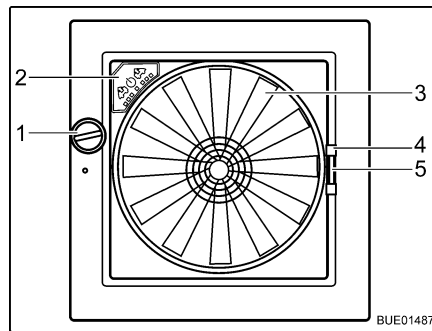

Fig. 55 Omni-Vent skylight
- Opening:* ■ Turn the knob (Fig. 55,1) until the desired opening angle is reached.
- Closing:* ■ Turn the knob (Fig. 55,1) until the skylight is fully closed.
- Closing:* ■ Using the handle (Fig. 55,4) pull the insect screen across to the other side of the frame.
- Closing:* ■ Press together the handle (Fig. 55,5) of the shade.
Fan If the skylight is open, the interior can be vented and aerated with the 6-speed fan (Fig. 55,3). The fan is operated via the operating panel (Fig. 55,2).